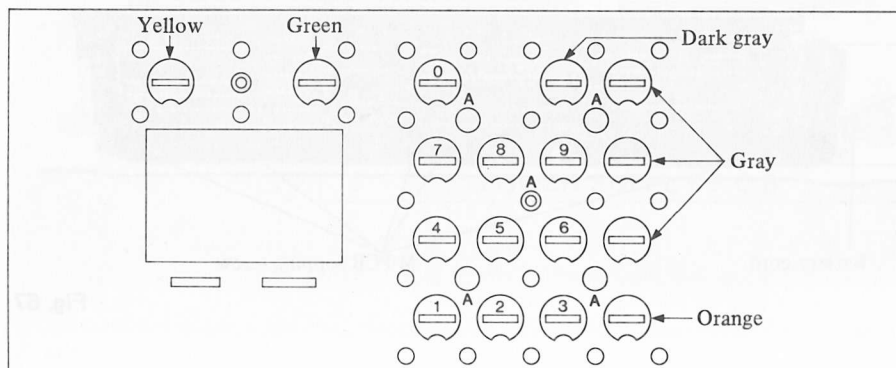

Fig. 69
- 2). Arrange the key tops according to the illustration. (Fig. 69)